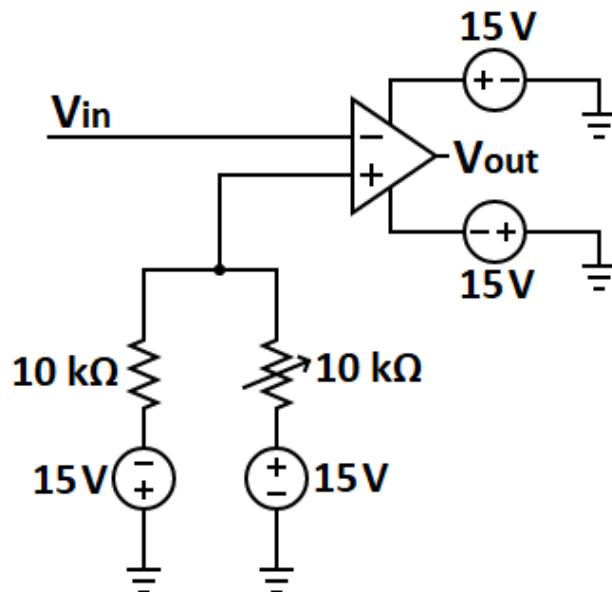

Fig. 5: Circuit for comparing a triangular wave to a reference voltage.
In this task, the circuit generates a Pulse Width Modulation (PWM) signal using a comparator, as shown in Figures 5 and 6. The comparator receives two input signals: a triangular wave from the previous task and a reference voltage. The comparator continuously compares the triangular wave voltage with the reference voltage.
- 1) Assemble the PWM generator circuit as shown in Figures 5 and 6. In this task, the input triangular